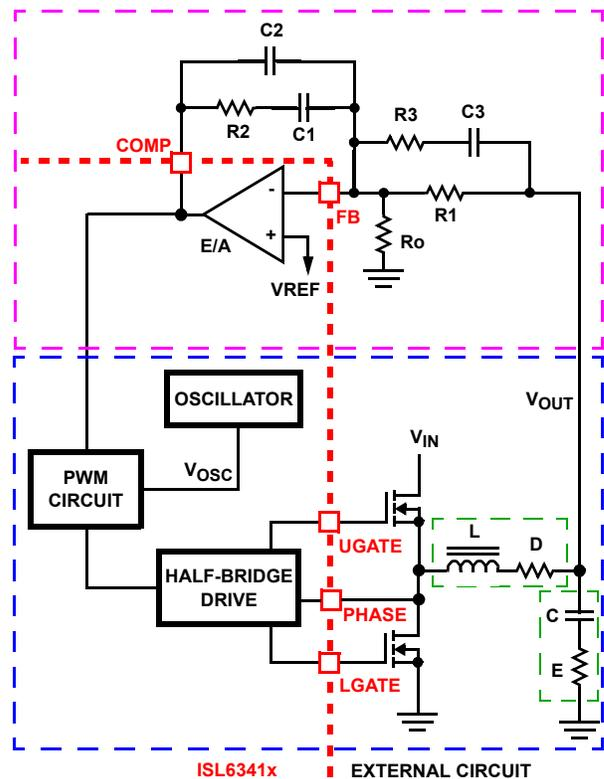

FIGURE 13. VOLTAGE-MODE BUCK CONVERTER COMPENSATION DESIGN
address a broad range of applications, a type-3 feedback network is recommended, as shown in the top part of Figure 13.
Figure 13 also highlights the voltage-mode control loop for a synchronous-rectified buck converter, applicable to the ISL6341x circuit. The output voltage ( $V_{OUT}$ ) is regulated to the reference voltage,  $V_{REF}$ . The error amplifier output (COMP pin voltage) is compared with the oscillator (OSC) modified sawtooth wave to provide a pulse-width modulated wave with an amplitude of  $V_{IN}$  at the PHASE node. The PWM wave is smoothed by the output filter (L and C). The output filter capacitor bank's equivalent series resistance is represented by the series resistor E.
( $F_0$ ; typically 0.1 to 0.3 of  $f_{SW}$ ) and adequate phase margin (better than  $45^\circ$ ). Phase margin is the difference between the closed loop phase at  $F_{0dB}$  and  $180^\circ$ . The equations that follow relate the compensation network's poles, zeros and gain to the components ( $R_1, R_2, R_3, C_1, C_2$ , and  $C_3$ ) in Figure 13. Use the following guidelines for locating the poles and zeros of the compensation network:
4. Select a value for  $R_1$  ( $1k\Omega$  to  $5k\Omega$ , typically). Calculate the value for  $R_2$  for desired converter bandwidth ( $F_0$ ). If setting the output voltage via an offset resistor connected to the FB pin ( $R_0$  in Figure 13), the design procedure can be followed as presented in Equation 4.